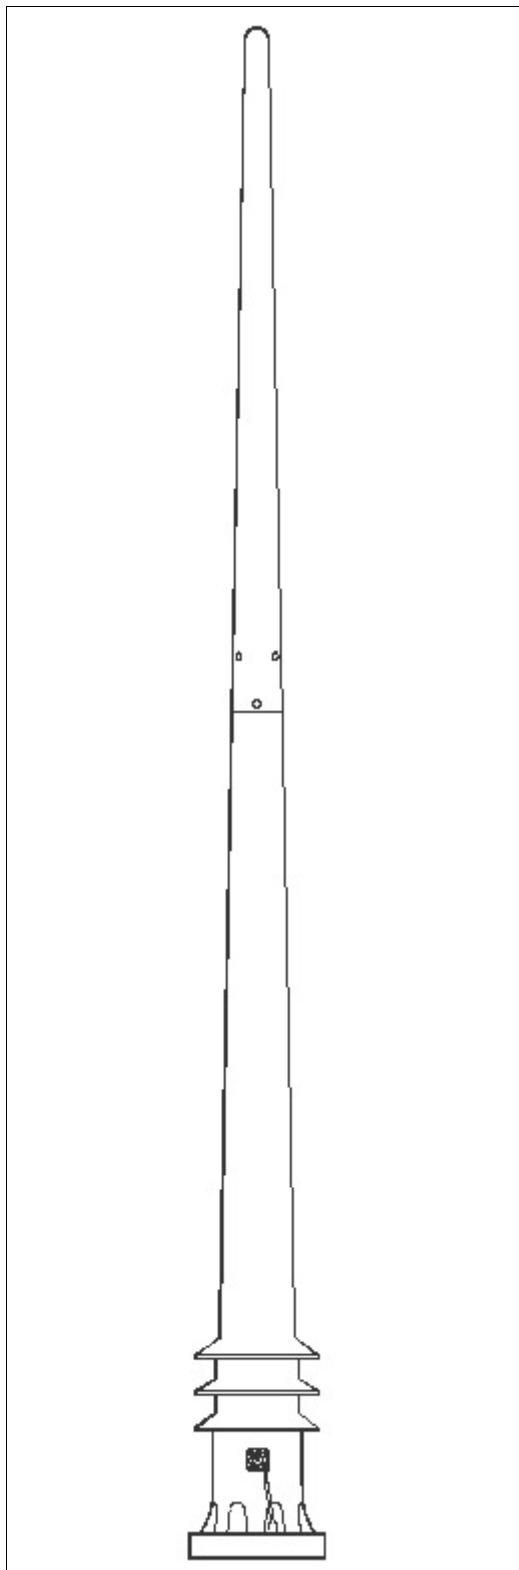

Figure 1-1 Antenna VBA2-30
- 1-4 EQUIPMENT DESCRIPTION. The VBBA 2-30 Broadband Antenna (see figure 1-1) is a whip antenna for general use with HF communications equipment. The antenna provides vertically polarized, omnidirectional azimuth radiation from 2 to 30 MHz when the antenna is operated with a HF transceiver. It is designed for use under the severe environmental conditions encountered aboard Naval vessels. It is used for either receiving or transmitting high frequency signals. The antenna is a two section antenna and is base mounted. The mounting flange and insulator is a single integral part made from fibreglass.